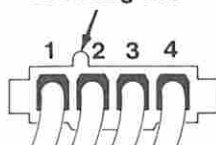

Figure 10. Diskette Drive Power Connectors
- Check the power connector at each installed diskette drive for the voltages listed in Figure 10.